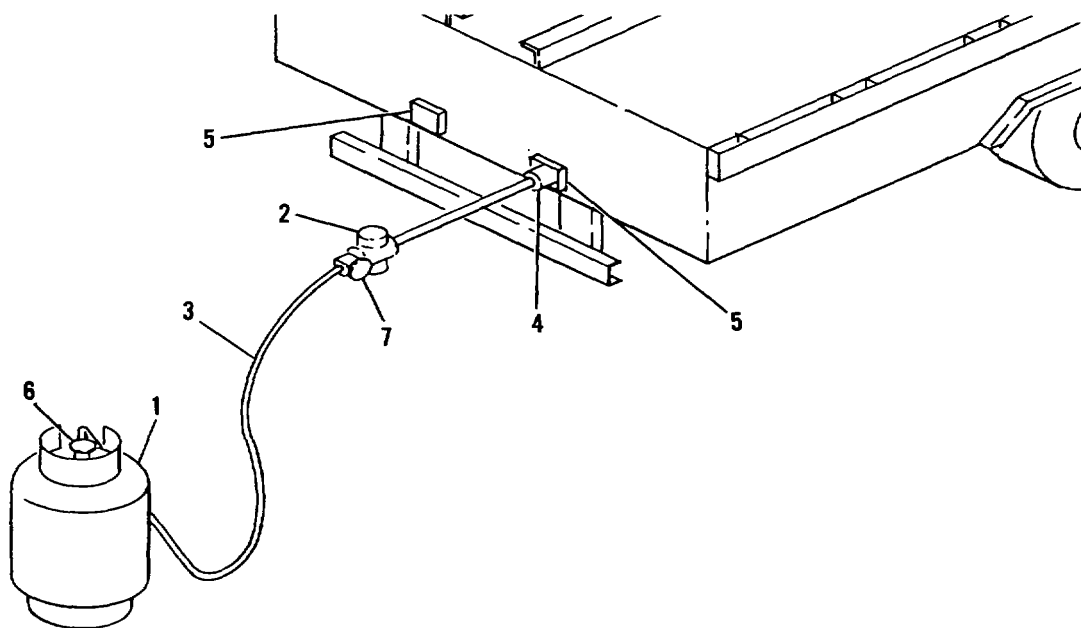

Figure 2-34. Water Heater Installation
- (1) Remove the propane tank (1, Figure 2-34), pre-set regulator (2), and hose assembly (3) from the left forward storage compartment and place at rear of vehicle.
- (2) Locate the torch adapter bracket (4) mounted at the rear of the curbside manifold (5).
- (3) Connect the hose to the torch. (**Note:** Left-hand threads.).
- (1) Turn the propane tank control valve (6, Figure 2-34) counterclockwise to open.
- (2) Hold the torch in one hand. Open torch control valve (7) a very minimal amount. This will permit gas to flow from the torch.
- (3) Light a match, cigarette lighter, or striker from cutting torch assembly. Hold it at the gas outlet of the torch mixer.
- (4) Insert the torch into the adapter (4) through the manifold (5). Figure 2-34 shows the completed installation.
- (1) Remove the hoses from the heat manifold (5, figure 2-34) storage location by unhooking the cable and carefully pulling out one hose at a time.